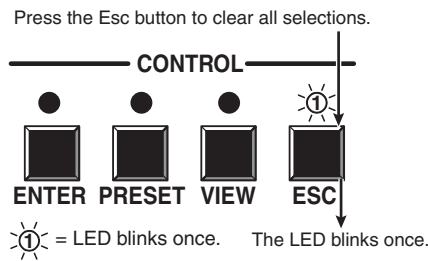

Figure 3-38 — Clear all selections
- Press and release the Esc button (figure 3-38).